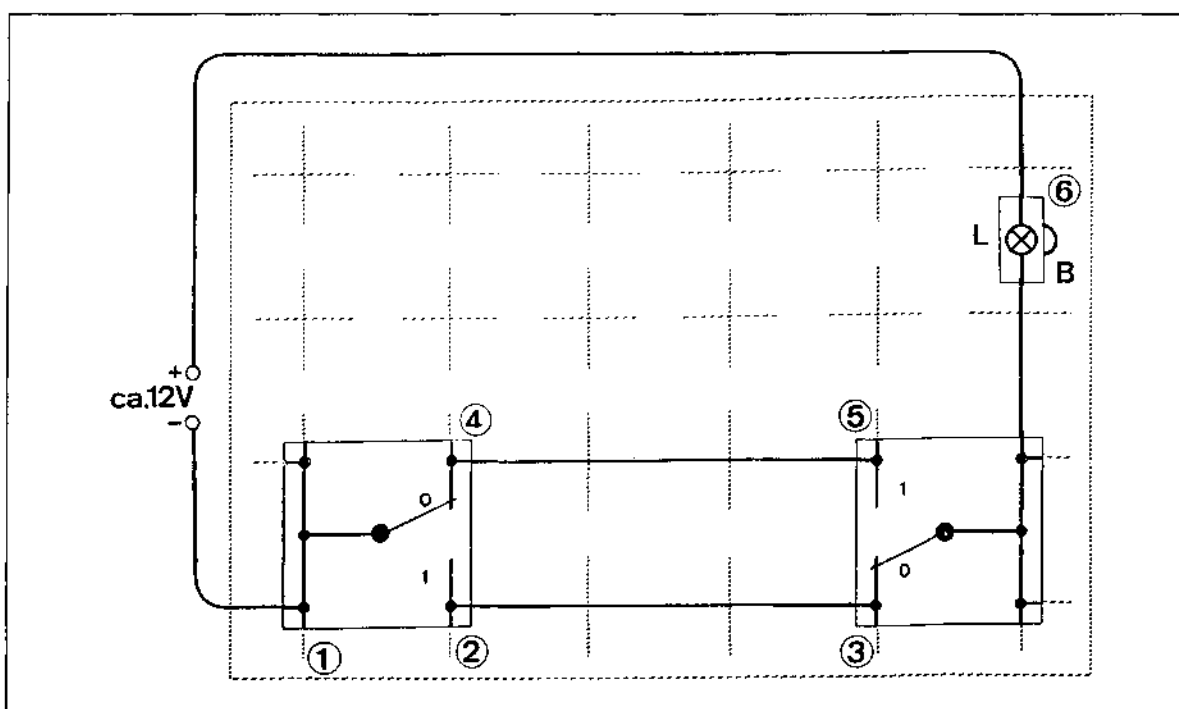
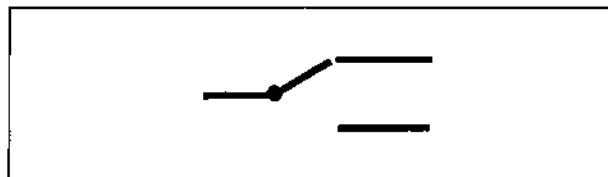

Fig. 1 Experiment setup: Two-way circuit
Fig. 2 Graphical symbol: changeover switch
1. Draw the circuit diagram for the circuit in fig. 1. The symbol for a changeover switch is shown in fig. 2.
2. Build the circuit shown in fig. 1.
(1), (2), (3) ... (6) connection points on the layout plug-in board
4. Which positions are the left- and right-hand switches in when the lamp in the circuit shown in fig. 1 lights up?